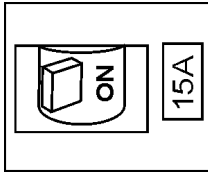

Figure 14. Main Circuit Breaker (ON)
- Place main circuit breaker (Figure 14) in the **ON** position.